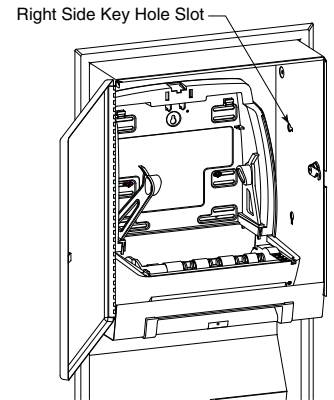

Figure 3
3. Insert one set of mounting hardware, the 3961-25 Carriage Bolt with the 3961-24 Washer Lock Nut, into the round portion of the upper right or left side keyhole slot from the inside of the housing with the head of the 3961-25 Carriage Bolt going in first. Position the square shoulder of the 3961-25 Carriage Bolt so that it is parallel with the straight sides of the keyhole slot and slide the entire assembly as far over as it will go. The square shoulder of the 3961-25 Carriage Bolt should be in contact with the end of the rectangular portion of the key slot to ensure proper seating of the mounting hardware. (See Figures 3 & 4)